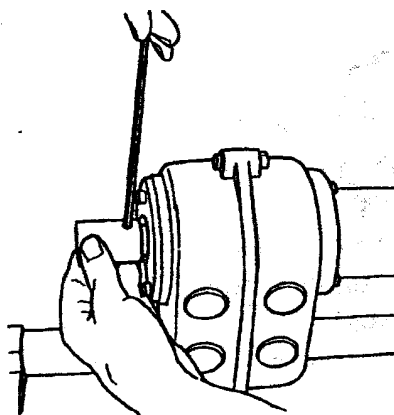

Fig.26
6. Install the special coupler all the way onto the Speed Reducer's output shaft, shown in Fig.26.